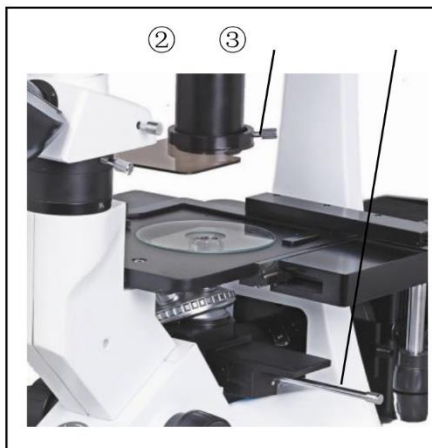

Figure 16
2.2.11. Installing protection barrier, glass plate, lever (Figure 16)